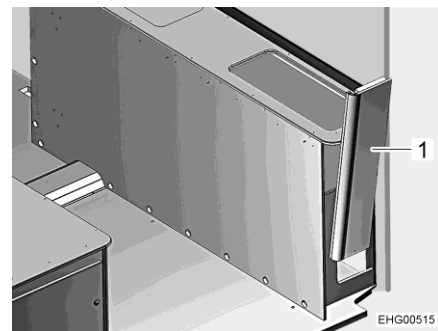

Fig. 110 Bedding box on the right, side wall
- Remove the side wall (Fig. 110,1) upwards with light shaking movements.